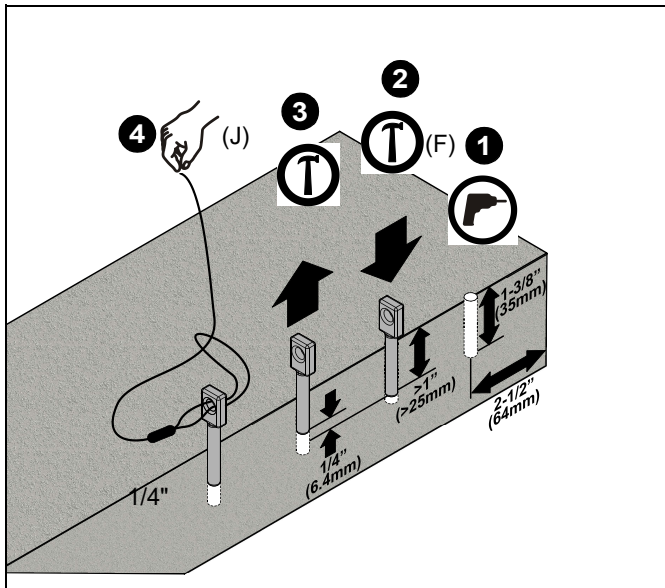

Figure 3
1. Drill 1/4" diameter x 1-1/2" deep hole at each marked cable anchor support location (See Figure 3). Use a plumb drop tool to make sure holes will be directly aligned with holes on ceiling. Ensure hole is at least 2-1/2" from nearest concrete edge. Remove debris from hole.
2. Tap anchor (F) into each hole until the anchor head is seated in the hole. (See Figure 3)
3. Using claw portion of hammer, set each anchor (F) by pulling it out of hole approximately 1/4" (6.4mm). (See Figure 3)
4. Insert portion of manufactured loop on cable (J) through hole in anchor (F). Insert end of cable (J) through loop. (See Figure 3)